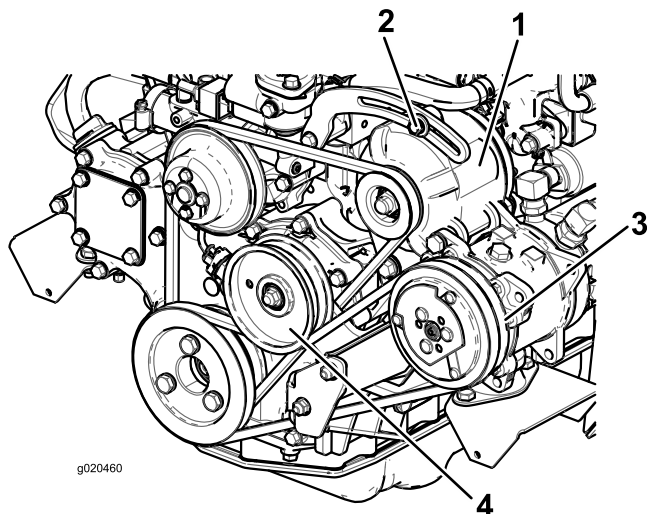

Figure 71
If the deflection is not 10 mm (3/8 inch), loosen the alternator-mounting bolts (Figure 71).
2. If the deflection is not 10 mm (3/8 inch), loosen the idler pulley mounting bolt (Figure 71).